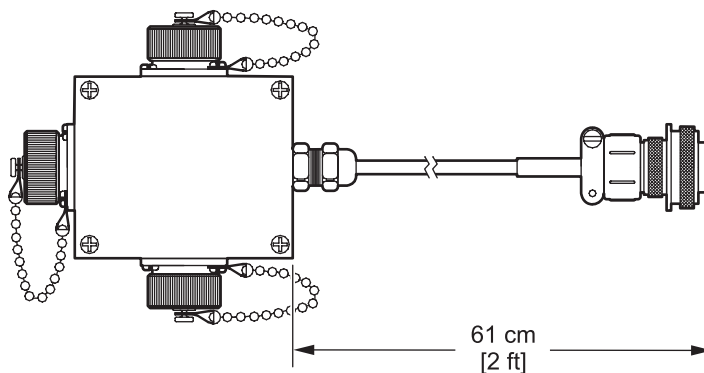

Figure 16 Splitter
- Optional splitter (Figure 16) to provide additional connections. Two or more splitters may be connected in series.